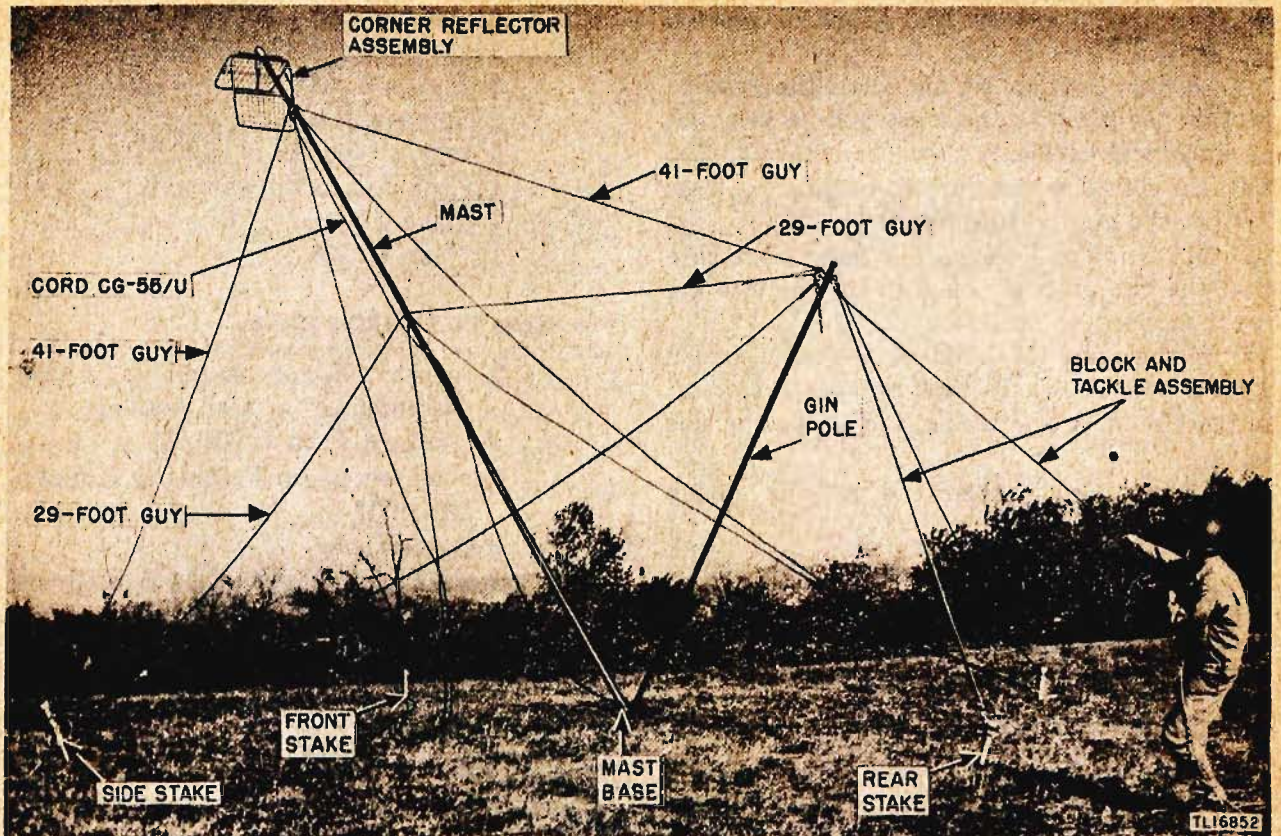

Figure 41. Raising the mast.
b. Pull the block and tackle cord to raise the mast (fig. 41). If more than one man is available, raise the top of the mast as high as possible by hand while pulling on the block and tackle.